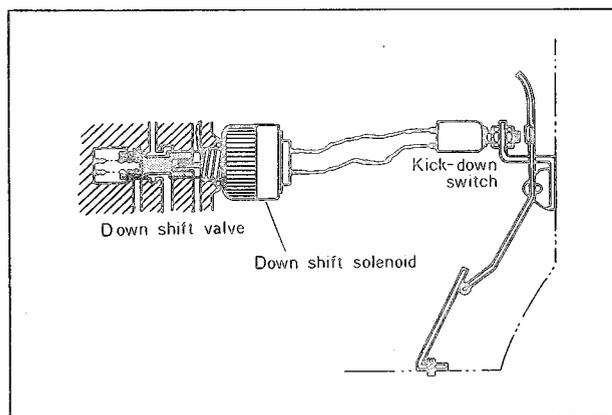

Fig. 7B-5 Kick-down switch adjustment
2. Loosen the kick-down switch attaching nut and adjust the switch to engage when the accelerator pedal is between $7/8 \sim 15/16$ of full pedal travel. The down shift solenoid will click when the switch engages (Fig. 7B-5).